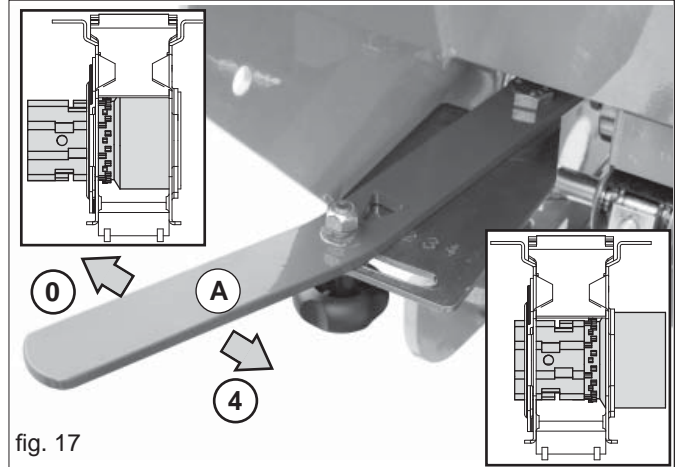

fig. 17
- 2) the lever (Fig. 17) in position «A»;
Before starting seeding, select the most suitable position of the dosing roller opening lever (Fig. 17) depending on the amount of seed to be distributed, following the indications provided in the DISTRIBUTION TABLES (page 15).
The dosing roller opening is adjusted by moving the lever (A, Fig. 17) along the slot between points 0 and 4.
- 6) It is now possible to adjust the quantity to be distributed in the best way, by adjusting the lever position (A, Fig. 17).
- Fully open the lever (A) shown in Figure 17 (pos. 4).